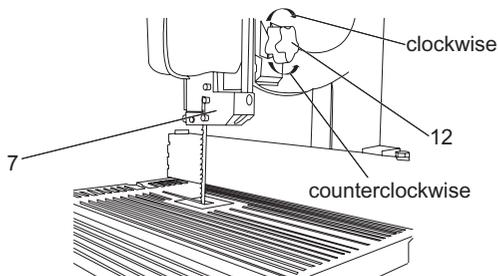

Fig. 16
- > Undo the setting wheel (12) in a counterclockwise direction to lower the upper band guide (7) as close as possible to the workpiece to be cut. The gap should be approx. 2-3 mm. (Fig. 16)